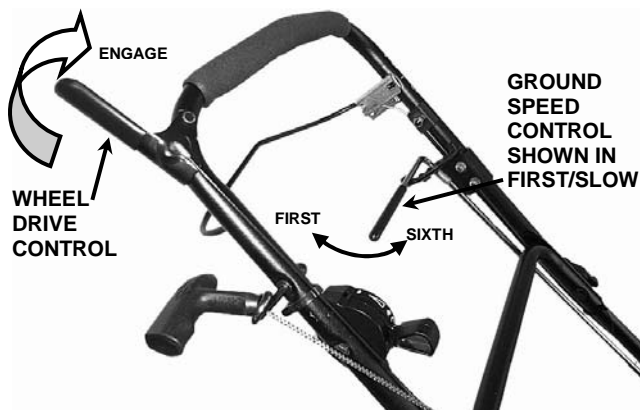

FIGURE 2.5
2. Move ground speed control to the desired speed position. See Figure 2.5.
3. Move wheel drive control against handle to engage wheel drive and propel mower forward. Forward speed can be adjusted while the mower is moving by changing position of the ground speed control. See Figure 2.5.